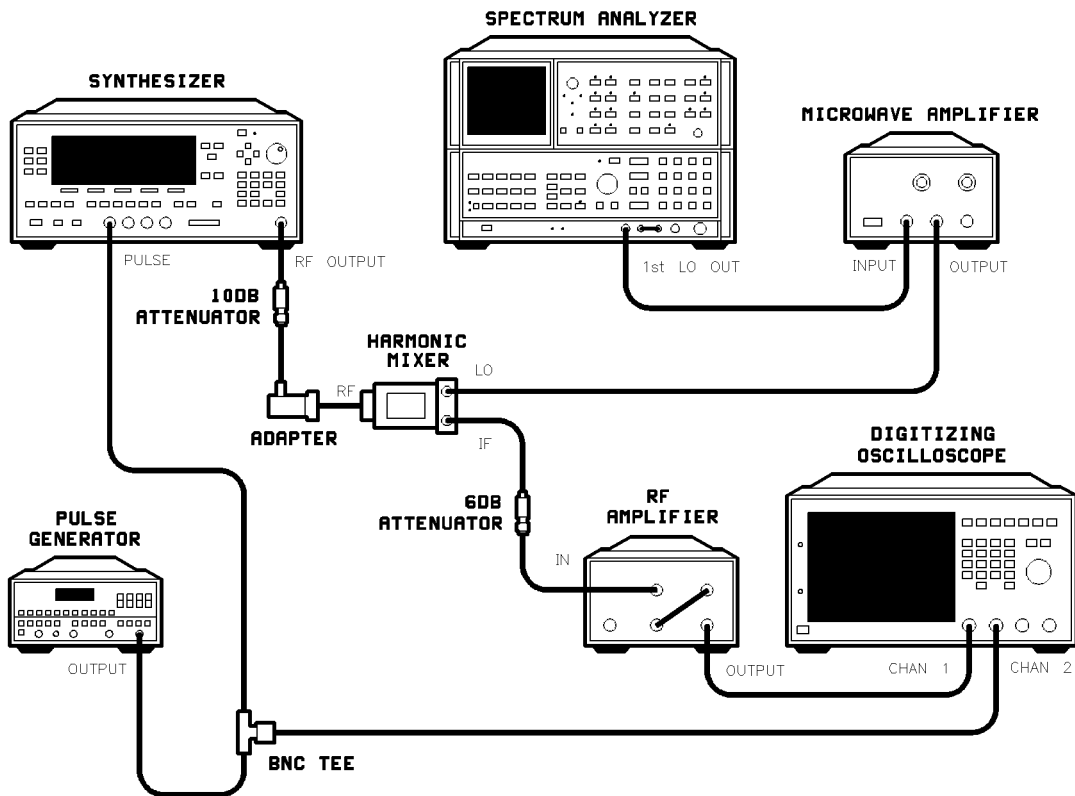

Figure 2-20. Pulse Performance Test Setup >20 GHz
25. Connect the equipment as shown in Figure 2-20 using the HP/Agilent 11970K Mixer.